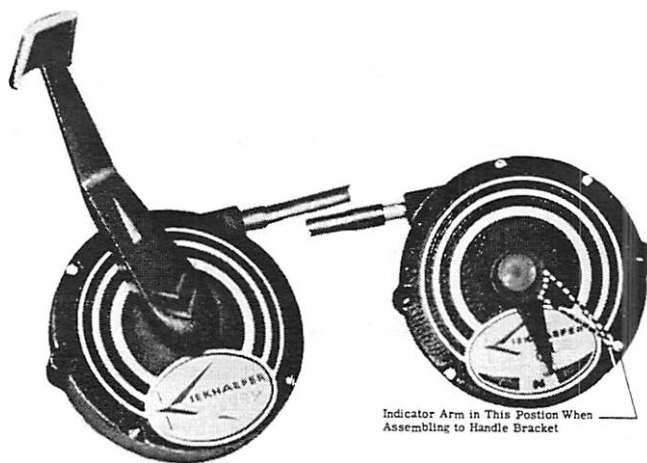

Figure 4. Control End (left) and Engine End (Right)
1. Remove screw which secures handle to control housing and remove handle. (Figure 4)
15. Turn indicator on engine end to "N" or "Neutral" position and reset handle in remote control housing in upright (vertical) position on desired side of housing and secure with lockwasher and screw. (Figure 4)
5. Move indicator arm to align with first screw in engine end of control housing in "F" or "Forward" position. (Figure 4, Right) This places yoke in correct position to be inserted into tongue on control shaft assembly of engine. Groove on bottom side of stem of housing will align with split in handle bracket
8. Remove handle from remote control end housing and reset perpendicular to cable entering housing, if it is not already in this position. Be sure handle is on correct side of housing. (Figure 4, left)